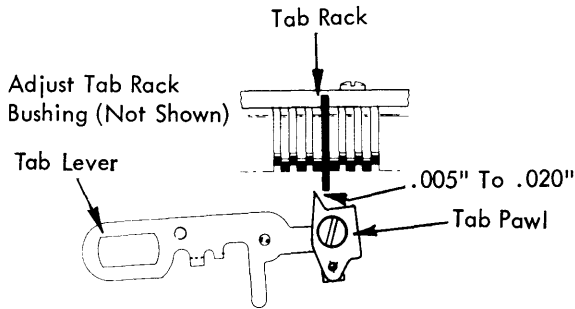

FIGURE 167. Tab Rack Adjustment
6. Tab Rack - Set a tab stop and backspace one time. Slowly depress the tab keylever while holding the carrier to prevent it from moving to the right. A clearance of $.005$ " to $.020$ " should exist between the tip of the tab lever pawl and the tab stop as the tips are in line with each other (Fig. 167). Adjust the tab rack bushing at the right end of the tab rack to obtain this condition. The locking plate, which holds the bushing in position, must be loosened before the adjustment can be made.